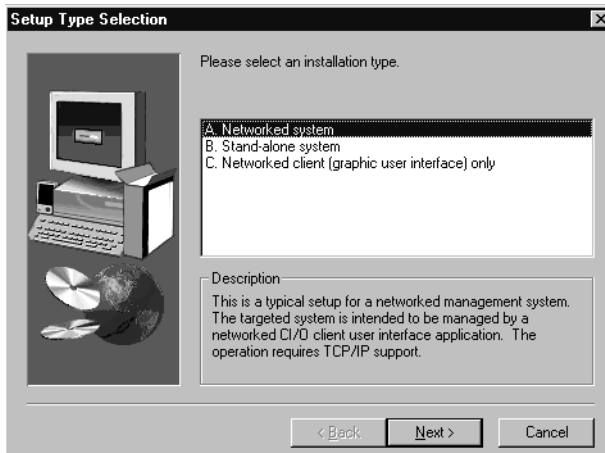

Figure 2-2. Setup Type Selection Screen
If you install Adaptec CI/O Management Software on a stand-alone system (see Figure 2-2), then all of the required components are already in place for you. If you select Networked System (A) in the Setup Type Selection screen, you do not need to setup the NT client again.